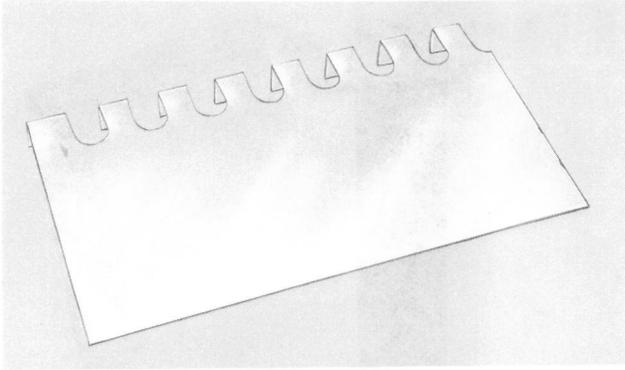

Fig. 8—Wiring Guard Bracket
- (3) Remove the transparent wiring guard bracket shown in Figure 8.